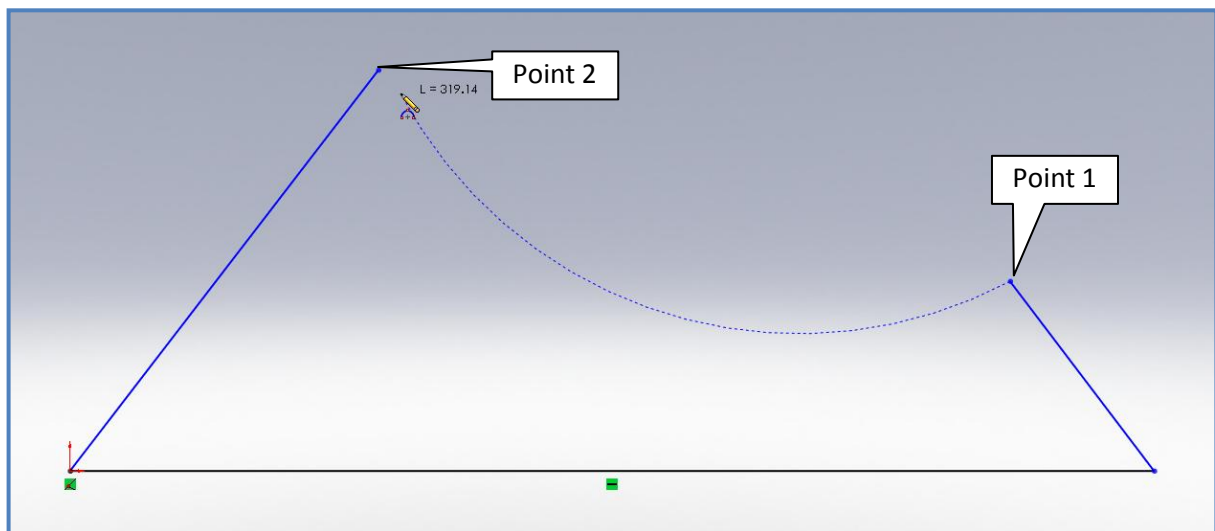

Figure 5
- Click on the end point of the 2 lines as shown in figure 5 (Points 1 & 2).